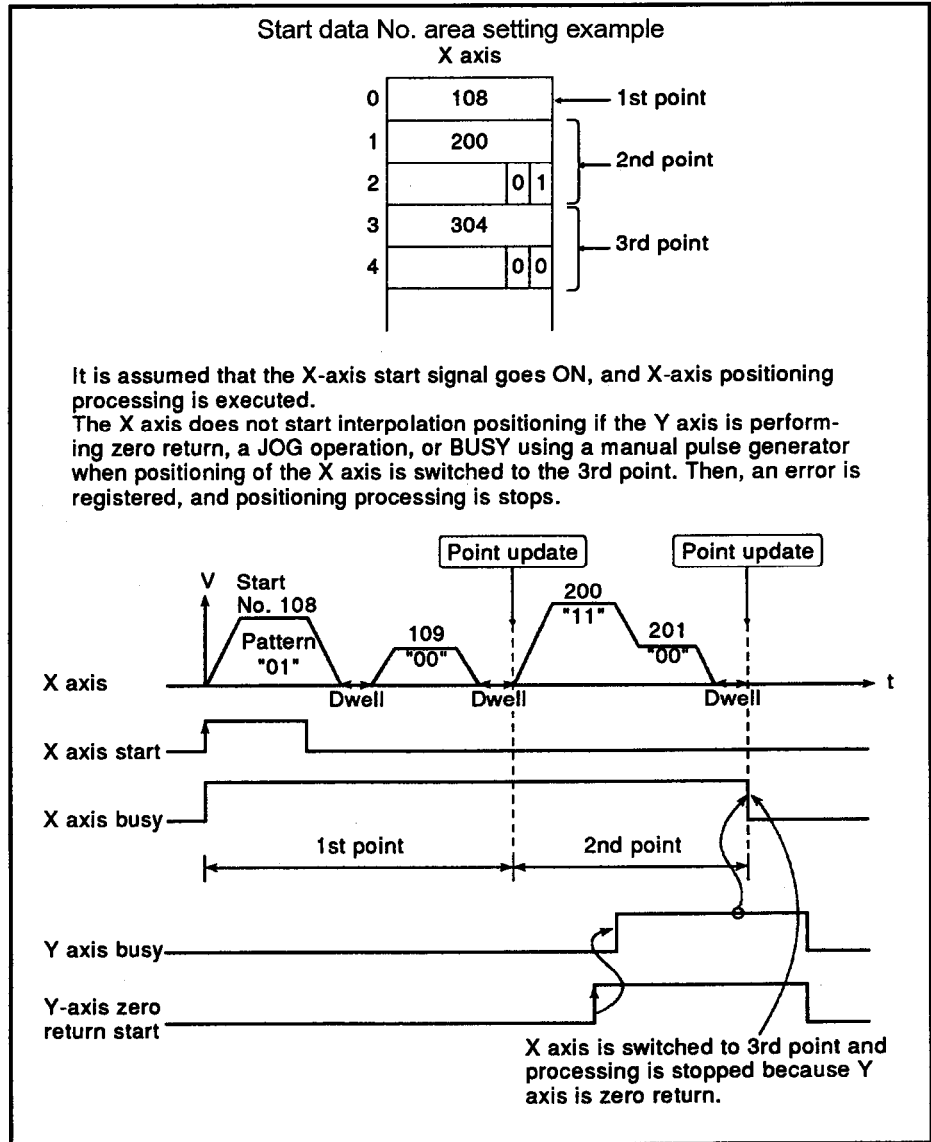

Fig. 3.35 Start Data Example 4
- 1) If the start axis is set to an interpolation start (00) or both-axes start (11) and the other axis is busy with other than positioning, an error occurs and the positioning process of the original axis is stopped. (Refer to Fig. 3.35.)
(Refer to Fig. 3.35.)